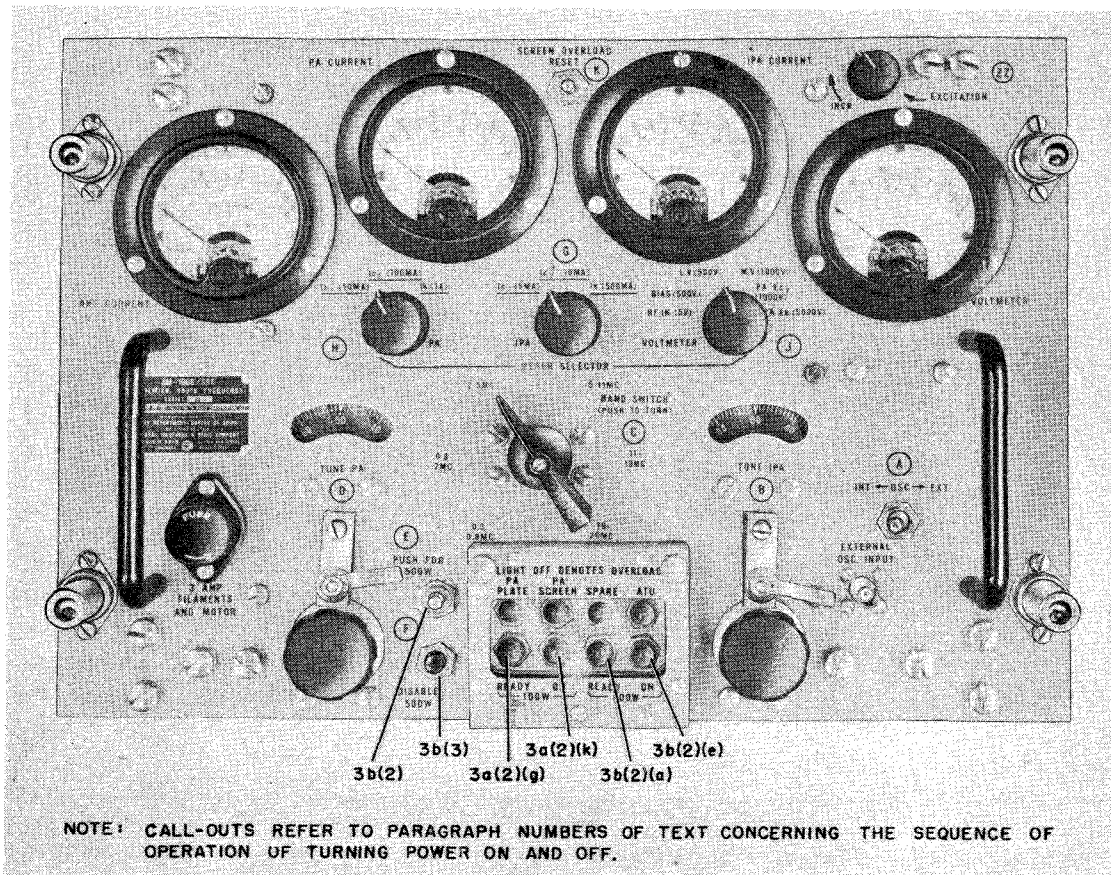

Figure 4-2. Radio Frequency Amplifier AM-1008/SRT (Radio Frequency Amplifier, RFA), Front Panel Controls and Indicators
| Manual tuning of the transmitter group. | Radio Frequency Amplifier AM-1008/SRT (figure 4-2) |
| Connection of 500-watt circuits to a transmitter group. | Radio Frequency Amplifier AM-1008/SRT (figure 4-2) |
a. RADIO FREQUENCY AMPLIFIER AM-1008/SRT.—The radio frequency amplifier (RFA) (figure 4-2) has controls for manually tuning Transmitter Group OA-684/SRT.
(1) OSCILLATOR INT-EXT SWITCH (A).—In normal operation, the INT-EXT switch (A) is placed in the INT position. This connects the output of the RFO to the input of the RFA. For purposes of corrective maintenance, alignment, etc., it might be desirable to connect an external source of r-f energy to the RFA. In this instance, switch (A) is placed in the EXT position and the output of the external source of r-f energy is connected through the EXT. OSC receptacle on the RFA front panel.
(2) BANDSWITCH (C), TUNE IPA (E), AND TUNE PA (D) TUNING CONTROLS.—The three tuning controls are reset with each change of transmitted frequency. The BANDSWITCH (C) is a rotary switch that is set to the band in which the transmitted frequency lies. The TUNE IPA control (E) is a continuous tuning control that is set according to the appropriate indication on the PA CURRENT meter with PA-METER SELECTOR switch (H) in the proper position. The TUNE PA control (D) is a similar continuous tuning control that also is set according to the indication on the PA CURRENT meter with PA-METER SELECTOR switch (H) in the proper position.
(3) PUSH FOR 500 W (E) AND DISABLE 500 W (F) SWITCHES.—In the AN/SRT-15 and AN/SRT-16, PUSH FOR 500 W (E) push-button switch, when depressed, places the transmitter group in 500-watt operation. With the transmitter in 500-watt operation, depressing the DISABLE 500 W (F) push-button switch returns the transmitter to the 100-watt level without having to take the transmitter off the air. In the AN/SRT-16, the booster is connected to only one